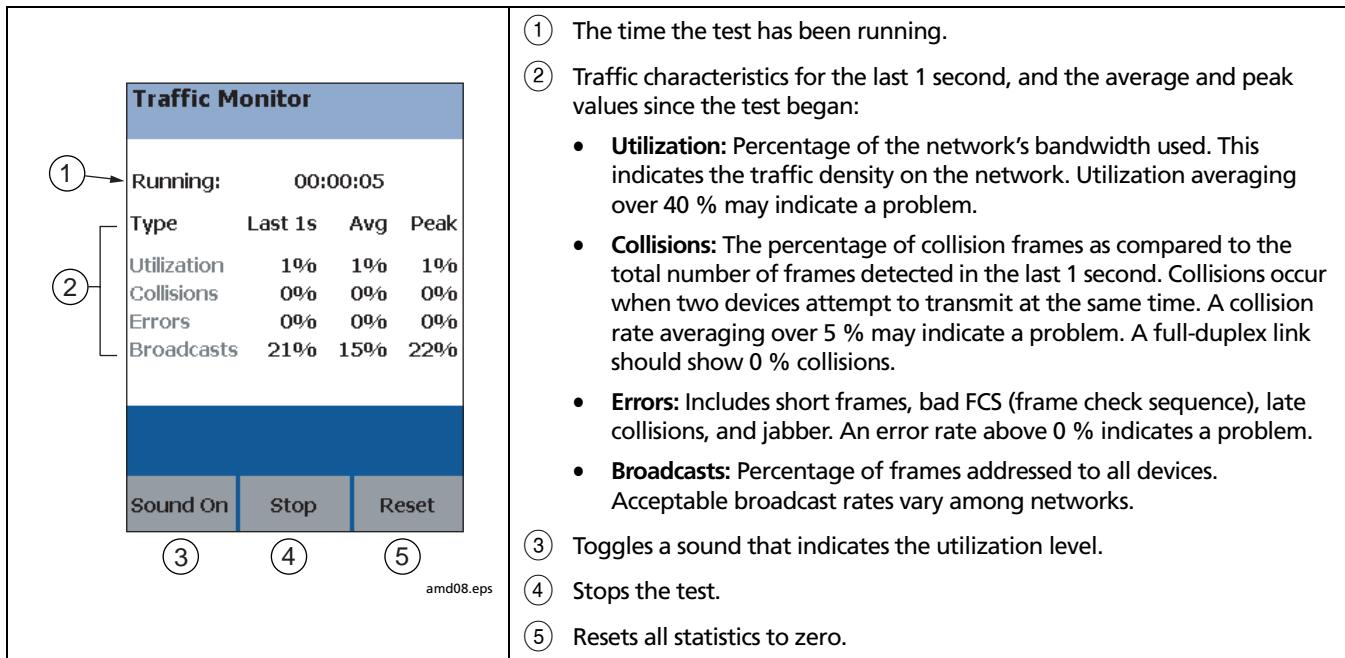

Figure 27. Traffic Monitor Screen
- 3 Press  **Traffic**. Figure 27 describes the traffic monitor screen.